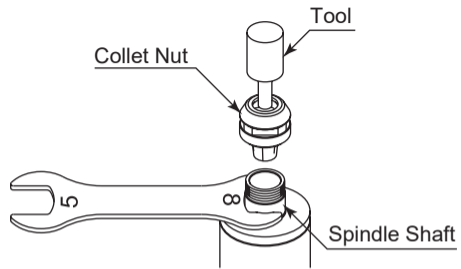

Fig. 16
- ① Remove the tool according to the section 7. "CHANGING THE TOOL" procedure above and remove collet nut assembly (Fig. 16).